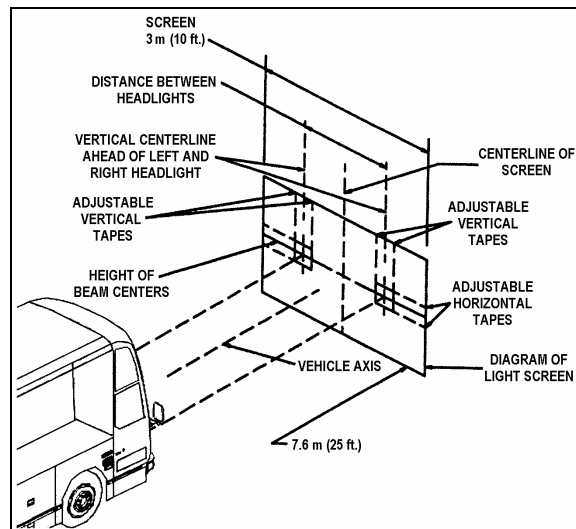

FIGURE 46: ALIGNMENT OF HEADLIGHT AIMING SCREEN
3. The headlight centerlines shall be spaced either side of the fixed centerline on the screen by 1/2 the lateral distance between the light source centers of the pertinent headlights. The horizontal tapes should be located on the screen at the upper and lower limits called for in the specification with reference to the height of beam centers and the plane on which the vehicle rests (Figure 46).